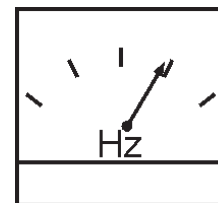

Figure 32. Frequency Meter (Hz)
4. The generator's frequency meter (Figure 32) should be displaying the 60 cycle output frequency in **HERTZ**.